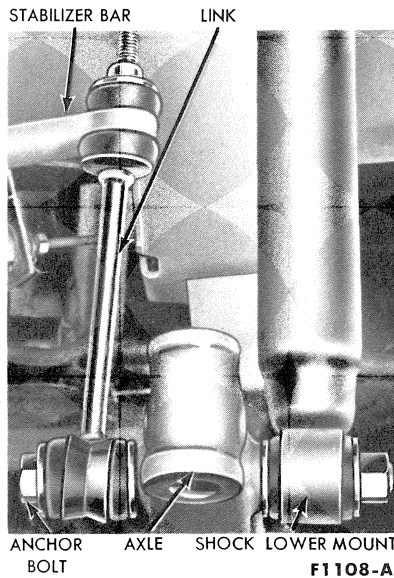

FIG. 3—Shock Absorber and Stabilizer Link Lower Connections
2. Remove the shock absorber lower attaching nut and washer (Fig. 3).
3. Remove the nut and washer from the anchor bolt that attaches the lower end of the shock absorber and stabilizer bar link to the axle. Tap the anchor bolt out of the shock absorber, axle, and link (Fig. 3).
drag link from the left spindle arm using the tool shown in Fig. 3.
7. At each end of the axle, remove the nut and washer from the anchor bolt that attaches the lower end of the shock absorber and stabilizer link to the axle. Tap the anchor bolt out of the shock absorber, axle and link (Fig. 3).